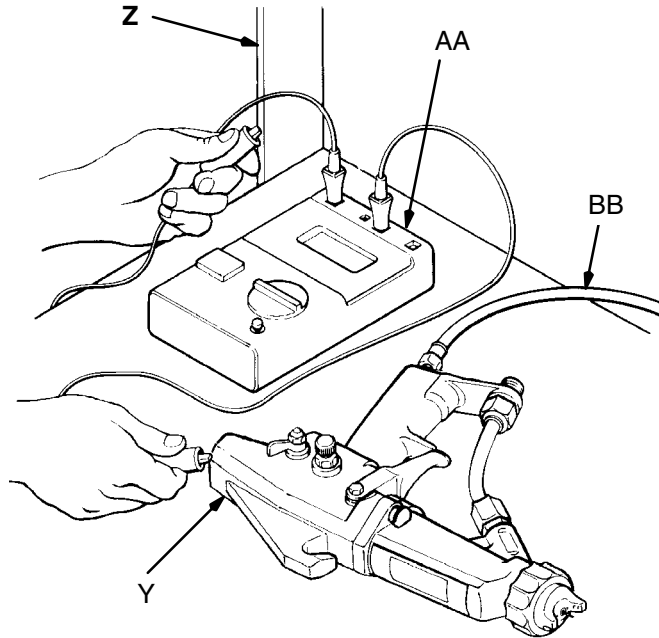

Fig 1
Check the Electrical Grounding (See Fig 1)
- a. With the electrically conductive air hose (BB) connected (see **Connect the Air Line**, page 7) and properly grounded, use a megohmmeter (AA) (shown in **ACCESSORIES** section) to measure the resistance between the gun handle (Y) and a true earth ground (Z). Use an applied voltage of 500 minimum to 1000 volts maximum. See Fig 1.